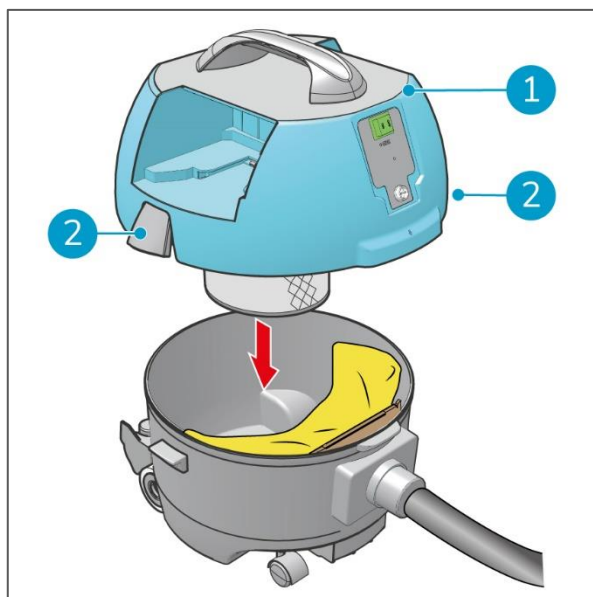

Figure 26
9. Place the head (Figure 26, pos 1) back on the can.
10. Fasten the latches (Figure 26, pos 2).